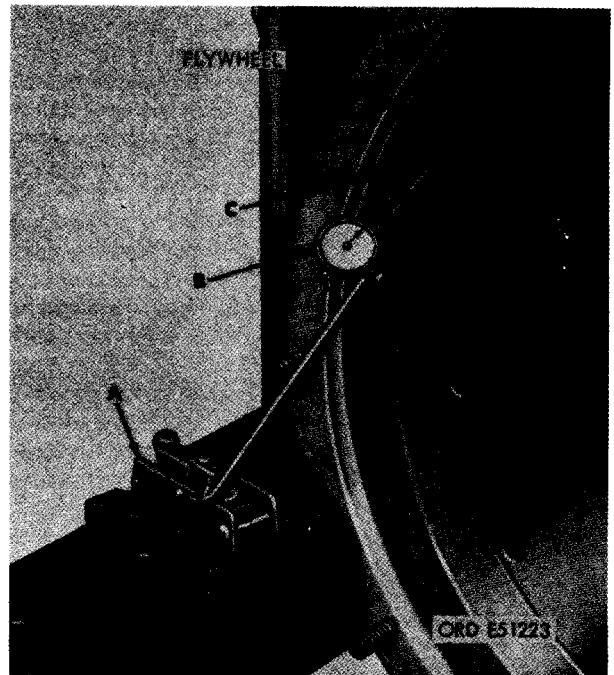

FIGURE 482. CHECKING FLYWHEEL RUNOUT USING DIAL INDICATOR.
- (2) Check flywheel runout. Figure 482. (A) Mount dial indicator on engine rear mounting bracket so indicator point sets on outer flywheel face as shown. (B) Set indicator on zero reading ("0"). (C) Turn crankshaft assembly 360 degrees and check runout. Replace flywheel if runout exceeds 0.008-inch TIR. Recheck runout of new flywheel in the same manner.